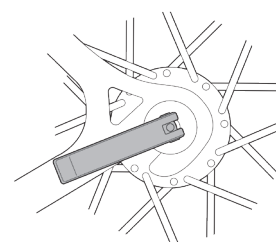

fig. 12b
6. With a cam action (Quick Release) system, move the cam lever upwards and swing it into the CLOSED position (fig. 12b). The lever should now be parallel to the seat stay or chain stay and curved toward the wheel. To apply enough clamping force, you should have to wrap your fingers around the fork blade for leverage, and the lever should leave a clear imprint in the palm of your hand.